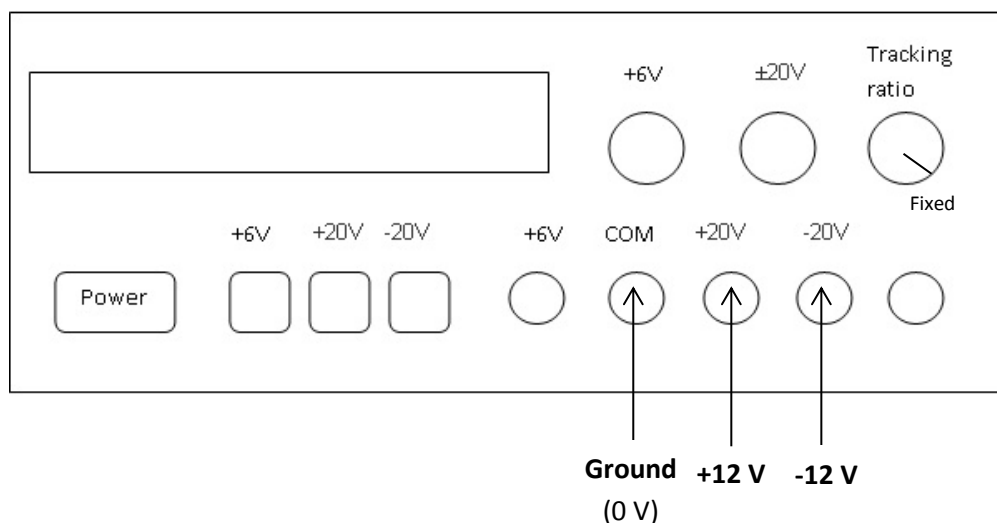

Figure 4: How the power supply will be used in the practical.
- c) Connect pin 2 of the op-amp to ground (0 V) of the power supply with a **2.7 k Ω** resistor. Refer to Figure 4 if you are unsure about the ground.
- d) Connect pin 4 of the op-amp to the - 12 V rail of the power supply. Refer to Figure 4.
- e) Connect pin 7 of the op-amp to the + 12 V rail of the power supply. Refer to Figure 4.
- c) Connect pin 3 of the op-amp to ground (0 V) of the power supply. Refer to Figure 4.